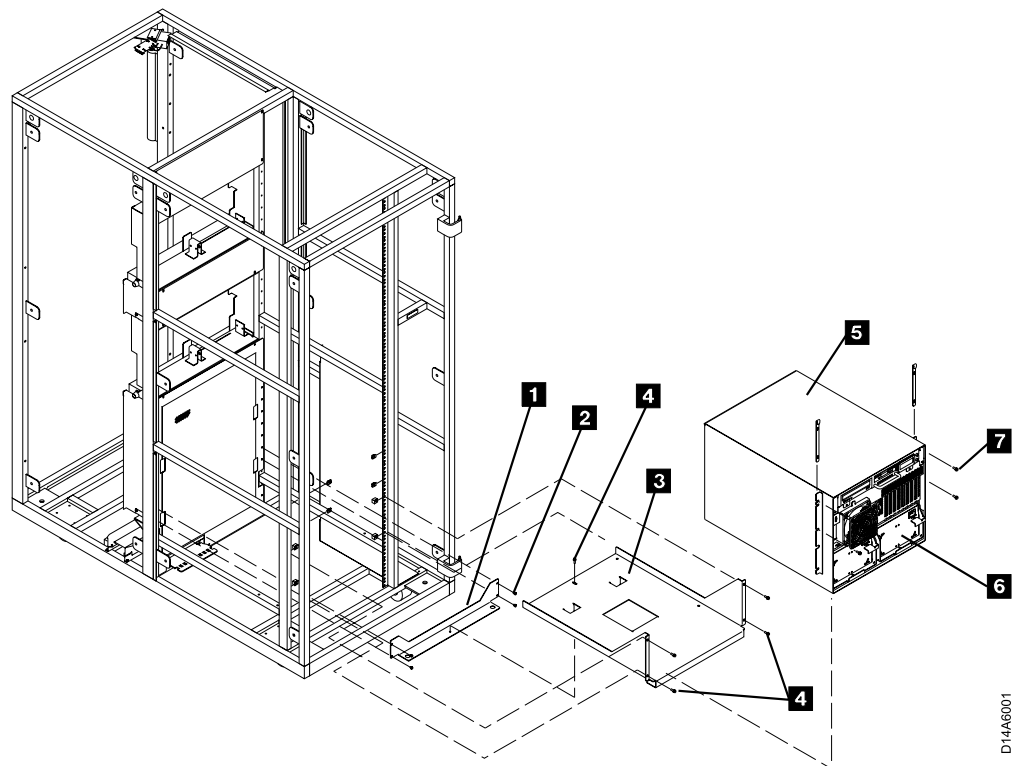

Figure 56. A60 Controller Hardware installation
In the following steps, refer to Figure 56 on page 249.
Refer to Figure 56 on page 249 for the hardware installation of the A60 Controller in the D14 frame.
- \_\_\_ Step 6. Install **8 nut clips** (4 on each side), counting from bottom of the D14 frame in holes 7 10, 28, and 36. Refer to Figure 56 on page 249.
- \_\_\_ Step 7. Install the **shelf adapter bracket 1** using the 4 screws P/N 1624765 **2** see Figure 56 on page 249. Mount in holes 1 and 2 counting up from the frame member on both sides. Refer to Figure 56 on page 249.
- \_\_\_ Step 8. Install the **A60 Controller shelf 3** with the flange side down, using 4 screws, P/N 1624779 **4**. Refer to Figure 56 on page 249.
Install the A60 Controller **5** from the rear of the D14 frame with the front of the controller (side not enclosed in the case **6**) facing you, using 4 screws, P/N 1624779 **7**. Refer to Figure 56 on page 249.